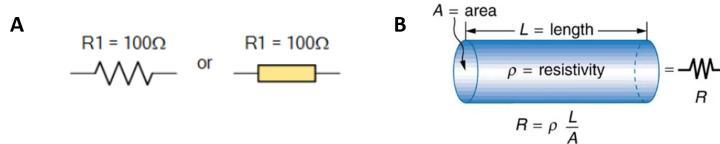

Figure 4: Resistor electric symbols. Adapted from https://www.electronics-tutorials.ws/resistor/res_1.html
Resistors are represented in electrical circuits as shown in figure 4. A and resistance is measured in *Ohms* (Ω). They are called “Passive Devices”, because they contain no source of power or amplification but only attenuate or reduce the voltage or current signal passing through them. This attenuation results in electrical energy being lost in the form of heat as the resistor resists the flow of electrons through it.
The resistance of any substance depends on the following factors: 1) the length of the device (L), 2) the cross sectional area of the device (A), 3) the nature of material of the device, which has an inherent *resistivity* (ρ , measured in $\Omega \cdot m$), 4) the temperature of the device (T) (see Figure 4.B). All these variables also apply to evaluate pipes resistance in the water analogy!